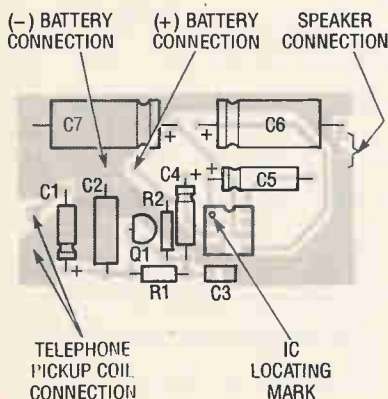

Figure 2. The Parts Layout for the Telephone Amplifier.
1. Assemble the phone amplifier according to the parts-placement diagram in Figure 2, using the Parts List and the schematic to help you. Make sure you have all the necessary parts on hand before beginning construction, and use only 60/40 rosin-core solder.
Recheck all resistors against the parts layout (Figure 2) and look